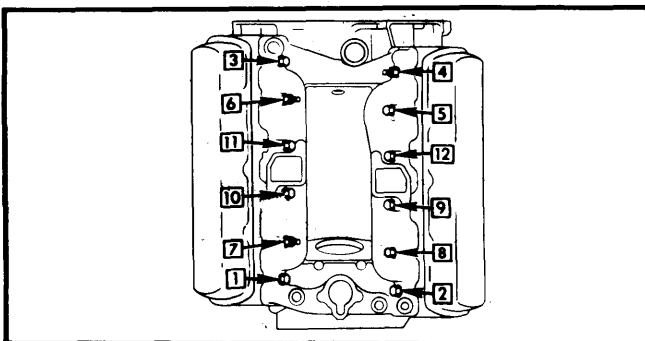

Fig. 1 Intake Manifold Tightening Sequence
2) Dip manifold bolts in oil, install and tighten. See Fig. 1. Reconnect thermostat by-pass hose to water pump. Apply RTV sealer to cone shaped surface of drain tube and on chamfered hole of manifold. Apply suitable sealer to threads of drain tube clamp bolt and install drain tube.